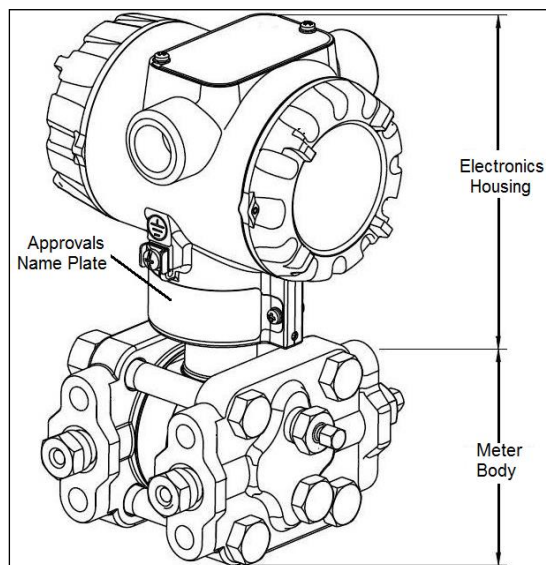
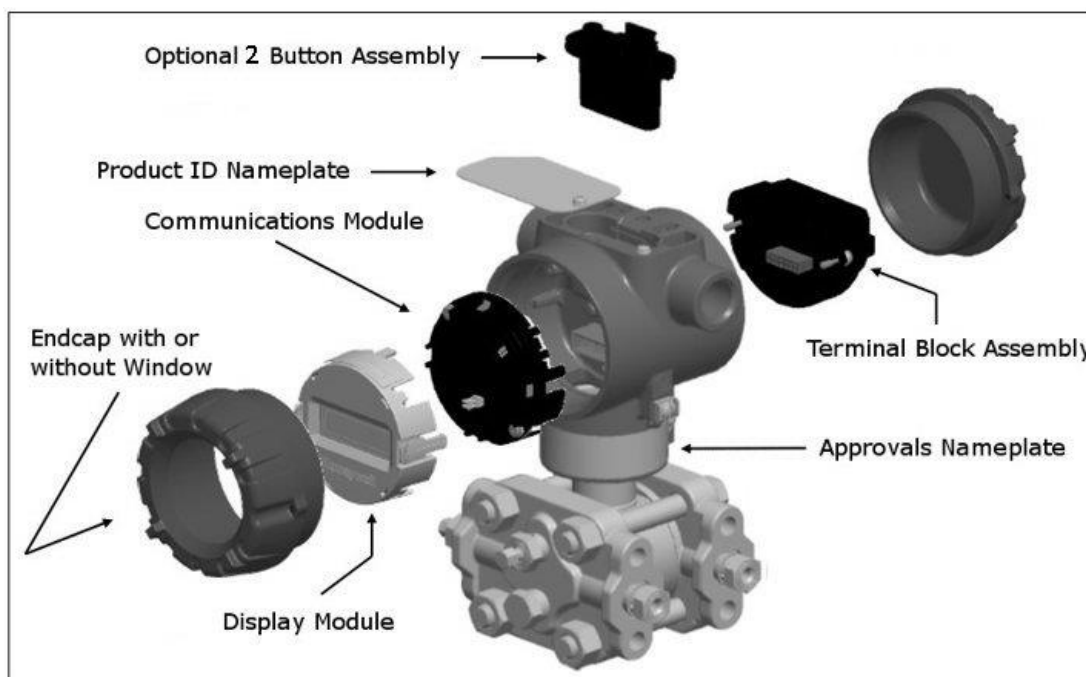

Figure 41 – ST 700 Basic Transmitter - Major Assemblies
Figure 42 – ST 700 Basic transmitter Electronics Housing Components
As shown in Figure 41 the ST 700 Basic transmitter is packaged in two major assemblies: the Electronics Housing and the Meter Body. The elements in the Electronics Housing respond to setup commands and execute the software and protocol for the different pressure measurement types. Figure 42 shows the assemblies in the Electronics Housing with available options.
The Transmitter nameplate mounted on the bottom of the electronics housing (see Figure 42) lists its model number, physical configuration, electronics options, accessories, certifications, and manufacturing specialties. Figure 43 is an example of a typical Gauge Pressure (GP) or Atmospheric Pressure (AP) Transmitter name plate. The model number format consists of a Key Number with several table selections. The Differential Pressure (DP), Absolute Pressure (AP), and Gauge Pressure (GP) name plates are essentially the same. The DP model provides one additional entry (7 vs. 6) in the Meter Body Selections (Table I) to accommodate the static pressure rating.
An “approvals” name plate is located on the bottom of the Electronics Assembly; see Figure 42 exact location. The approvals name plate contains information and service marks that disclose the Transmitter compliance information.
Zero and Span adjustments are possible in ST 700 Basic Transmitter with the optional external 2-button and integrated two-button assemblies. See Figure 42 for the external 2-button assembly.